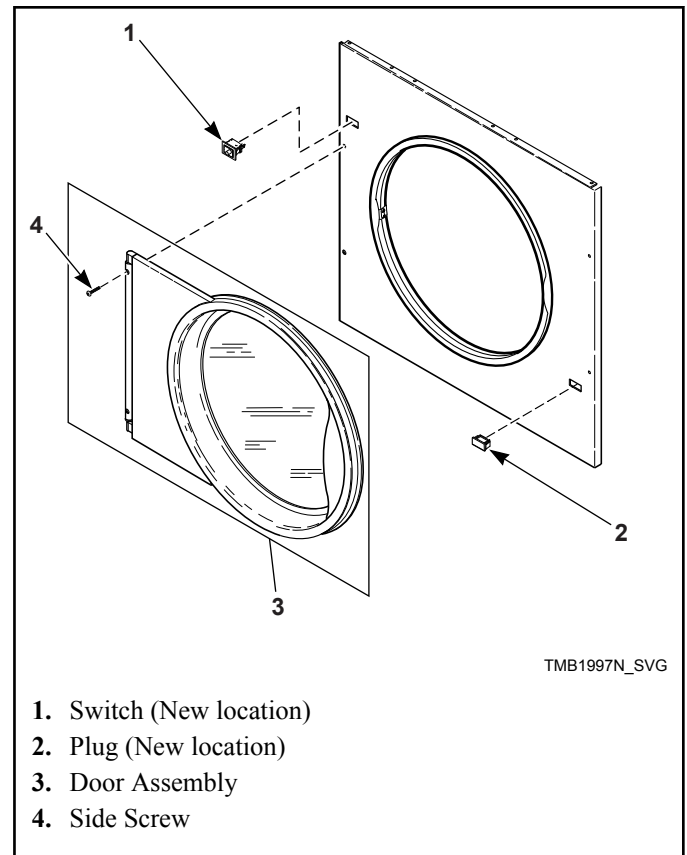

Figure 10
9. Place front panel on machine, loosely attach four bottom screws. Connect door switch harness to switch in new location. Install door assembly and four front panel side screws loosely. Refer to *Figure 10*.